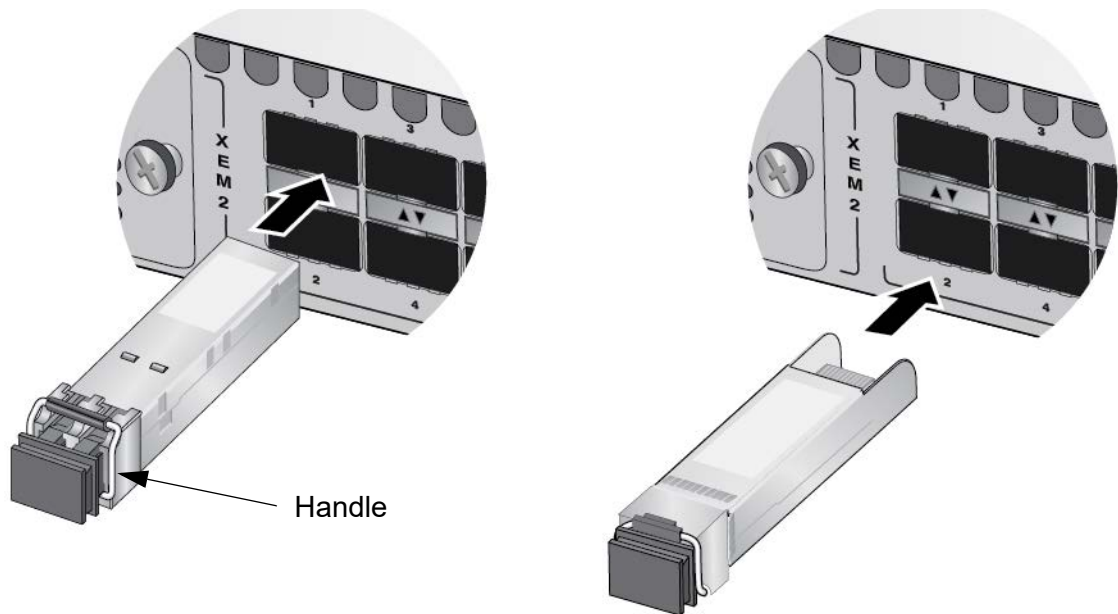

Figure 118. Installing an SFP or SFP+ Transceiver
- ❑ Base ports 1 to 24 and AT-XEM2-8XSTm and AT-XEM2-12XS Line Cards - To install a transceiver in an odd numbered port, position it with its handle on top. To install a transceiver in an even numbered port, position it with its handle on the bottom. Refer to Figure 118 on page 191.